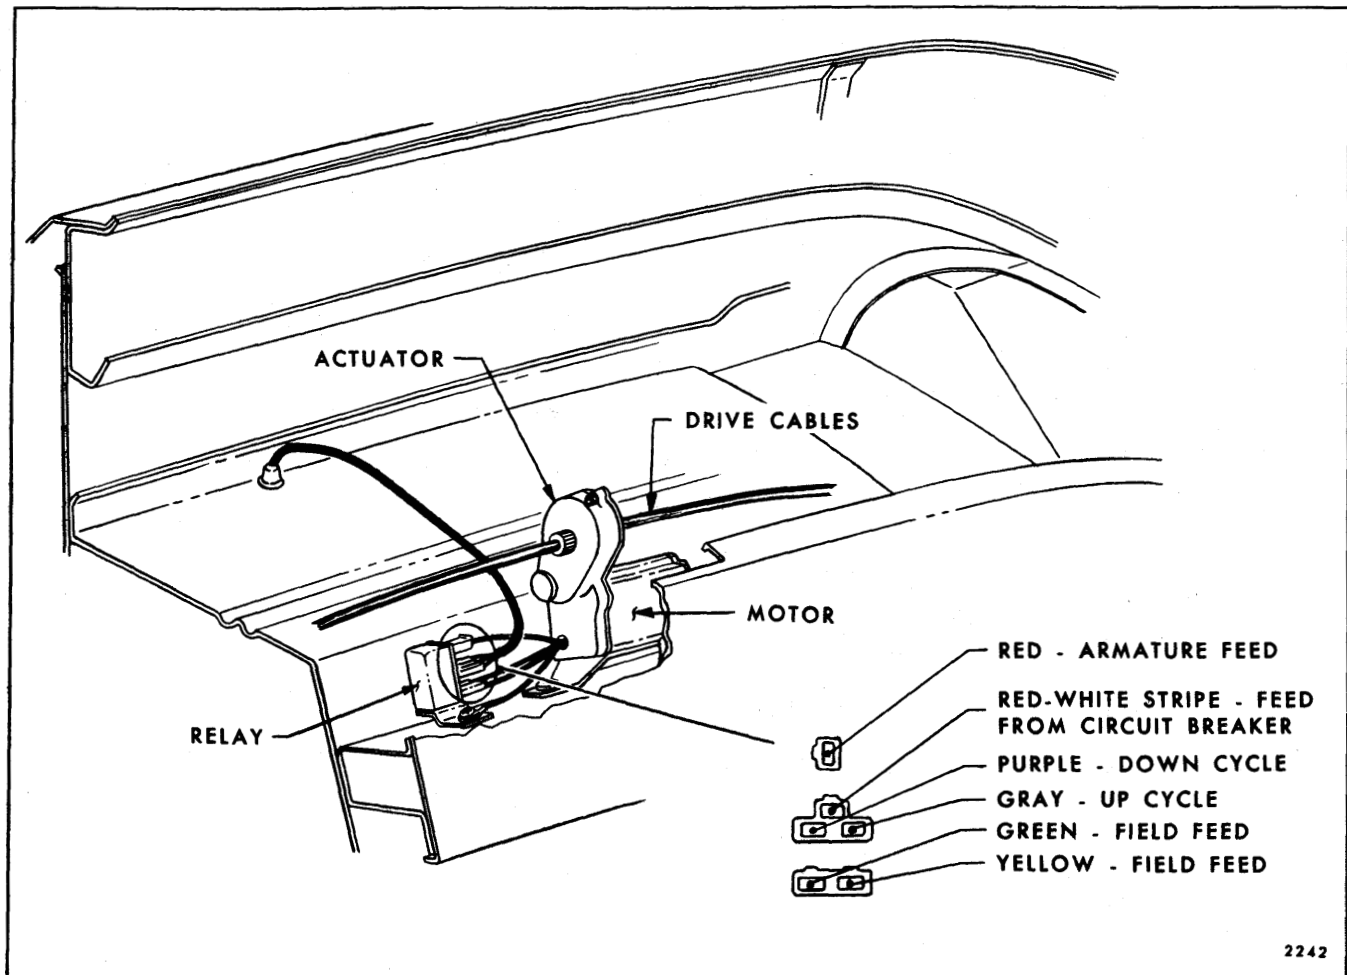

Fig. 11-71—Electric Folding Top Motor and Actuator - Corvaire
The electric folding top assembly is actuated by a 12 volt shunt-wound motor located under the folding top compartment bag (see Fig. 11-71).
1. Disconnect three leads from relay assembly. These are the wires leading from the motor to the relay. (Red, Green, Yellow, Fig. 11-71).